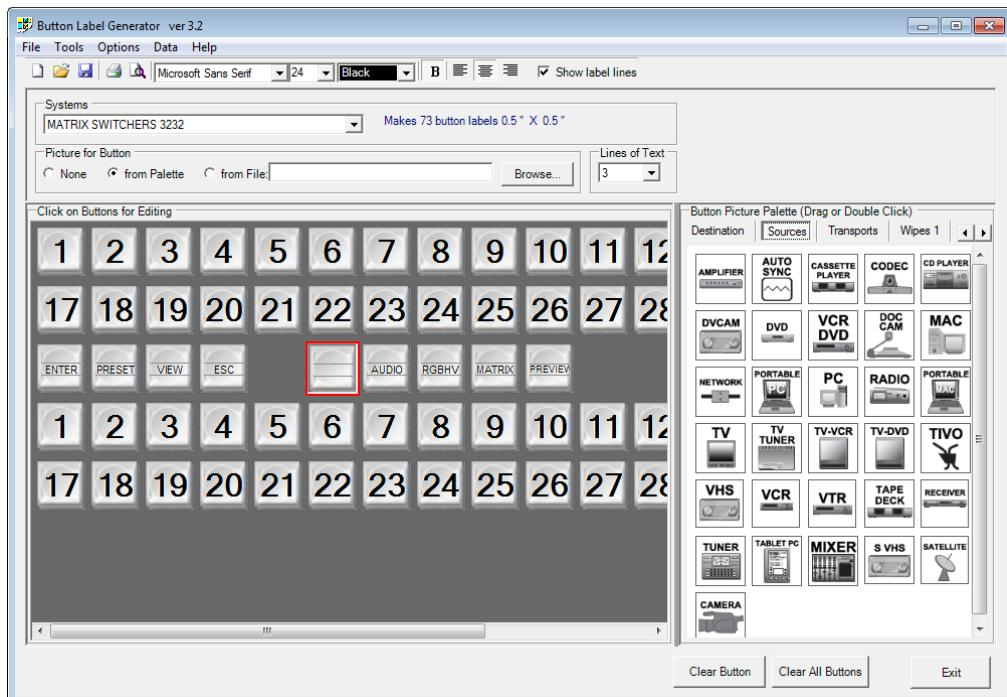

Figure 72. Button Label Generator Window
1. To run the Button Label Generator program, double-click on the **Button Label Generator** icon (shown at right) in the Extron Electronics group or folder. The Button Label Generator window appears (see figure 72).